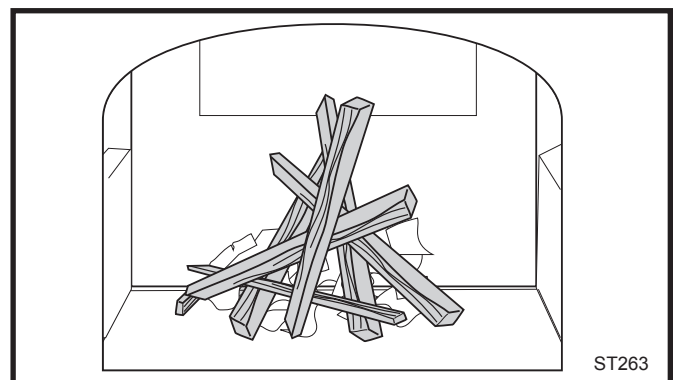

Fig. 36 Start the fire with newspaper and dry kindling.
2. Place several sheets of crumpled newspaper in the stove. Place six or eight pieces of dry kindling split to a finger-width size on the paper. On the kindling, lay two or three larger sticks of split dry wood approximately 1-2” (25-51 mm) in diameter. (Fig. 36)